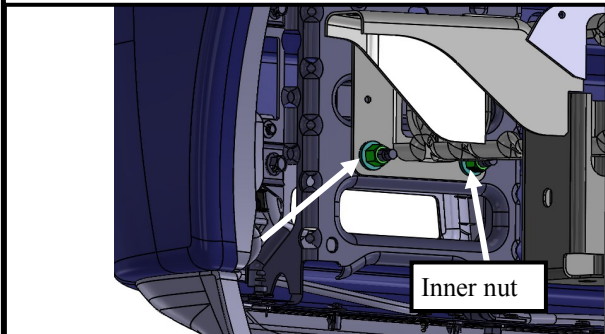

Fig. 5
2. Start installation on the driver side from underneath the front of the vehicle. Locate the two hex nuts on the lower bumper mount and remove them (**FIG 5**). **NOTE:** For vehicles with factory tow hooks, it is only necessary to remove the nuts inboard toward the center of the vehicle.